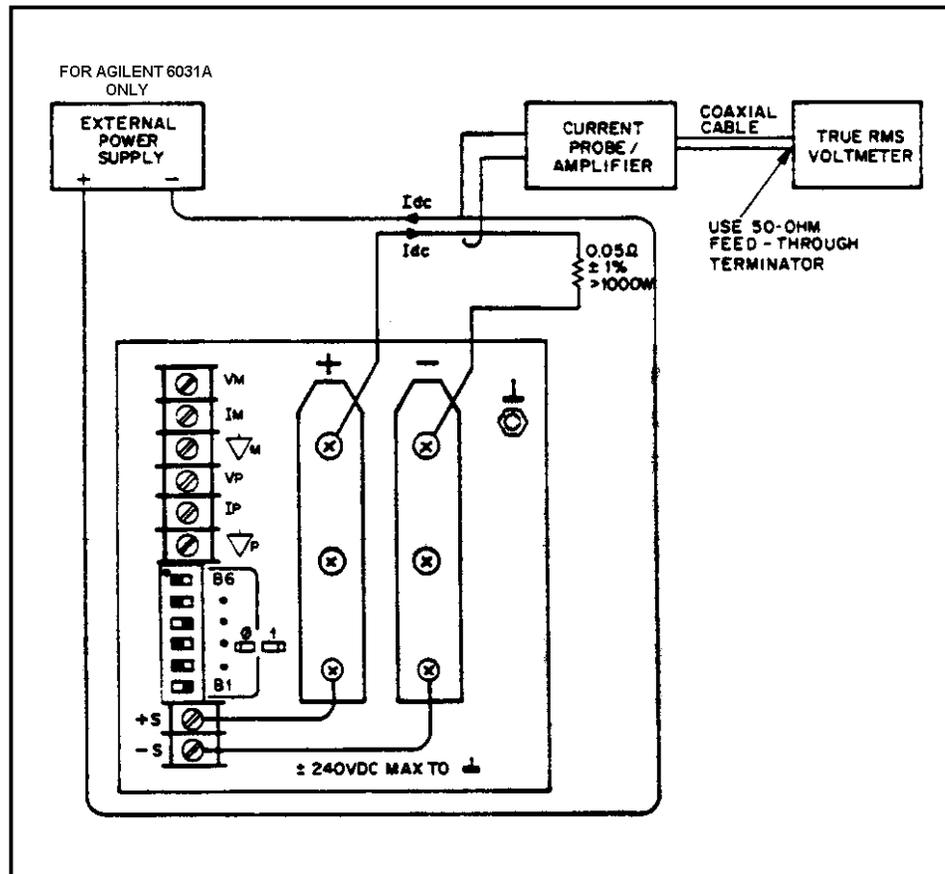

Figure 2-9. CC PARD Test Setup
- a. Connect the test equipment as shown in Figure 2-9.